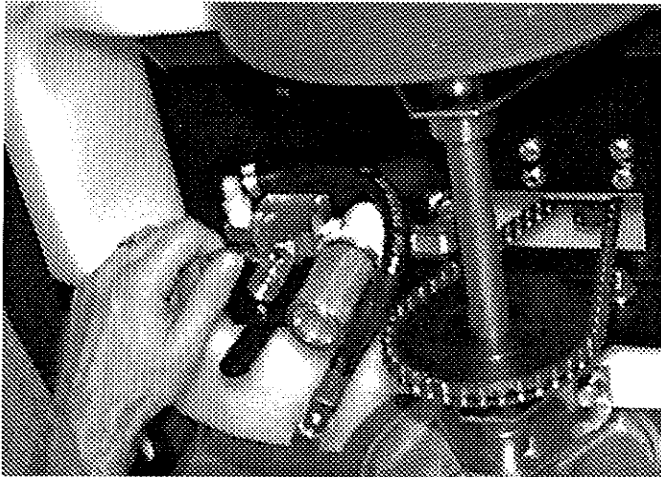

FIG. 11
3. Turn lever downward to drain. (Figure 11)